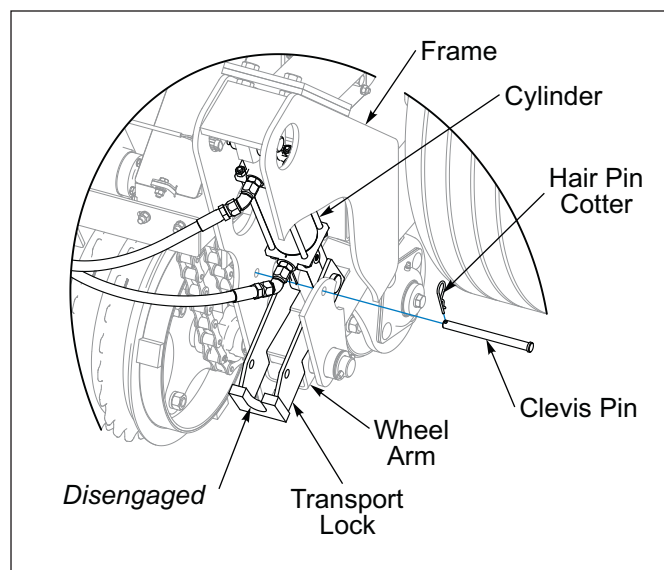

Figure 3-7: Transport Lock Disengaged
5. Disengage each Transport Lock so that the Transport Lock rests on the Wheel Arm. Insert the Clevis Pin in front of the Transport Lock. **See Figure 3-7.**
1. Raise the Seeder fully to extend the Hydraulic Lift Cylinders and rotate the Transport Locks to the stored position. Secure with the Clevis Pins and Hairpin Cotters. **See Figure 3-7.**
3. If Transport Locks are engaged, raise the Seeder and disengage the Transport Locks. **See Figure 3-7.**